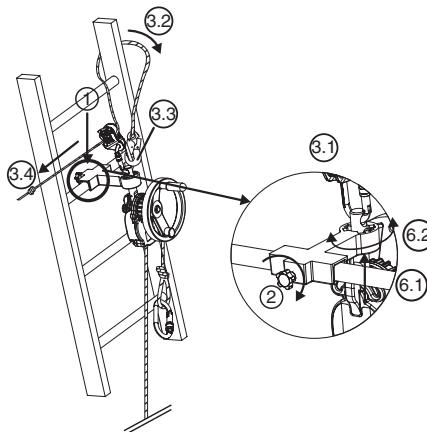

Fig. 7
6.3.3. Derope™ UP K descender (Fig. 7)
1. Place the small support bracket on the ladder bar in the position required to carry out the rescue operation above the person to be evacuated (Fig.7, 1).
2. Tighten the locking pin located at the back of the support bracket using the clamping knob (Fig.7, 2).
- Secure the connector of the adjustment device LCM 05 in the hole at the top of the fastening pin (Fig.7, 3.1).
- Run the belay lanyard around the ladder bar located above the bracket, going around one of the ladder uprights (Fig.7, 3.2).
- Connect the belay lanyard connector in the connector of the adjustment device LCM 05 (Fig.7, 3.3).
- Tension the belay lanyard by pulling on the free strand (Fig.7, 3.4).
6. Align the Derope™ descender as may be required, modifying the position of the fastening pin in the indexing device (Fig.7, 6.1 – 6.2).